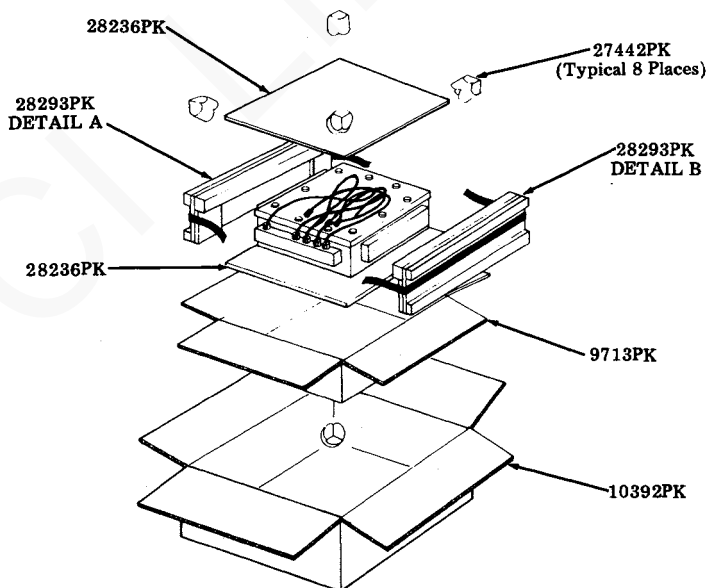

Fig. 69
- Step 2. Position a 28293PK Detail B against opposite end of controller. See Fig. 69. Drape cables over top of unit.
- Step 4. Position a 27442PK plastic corner in each of the four bottom corners of the carton. See Fig. 69.
- Step 6. Carefully place the 9713PK carton in the four plastic corners positioned in the 10392PK carton. (See Fig. 69.)
- Step 7. Place a 28236PK plywood detail in the 9713PK carton (See Fig. 69.)
- Step 8. Grasp the front and rear of the controller and place in carton. (See Fig. 69.)